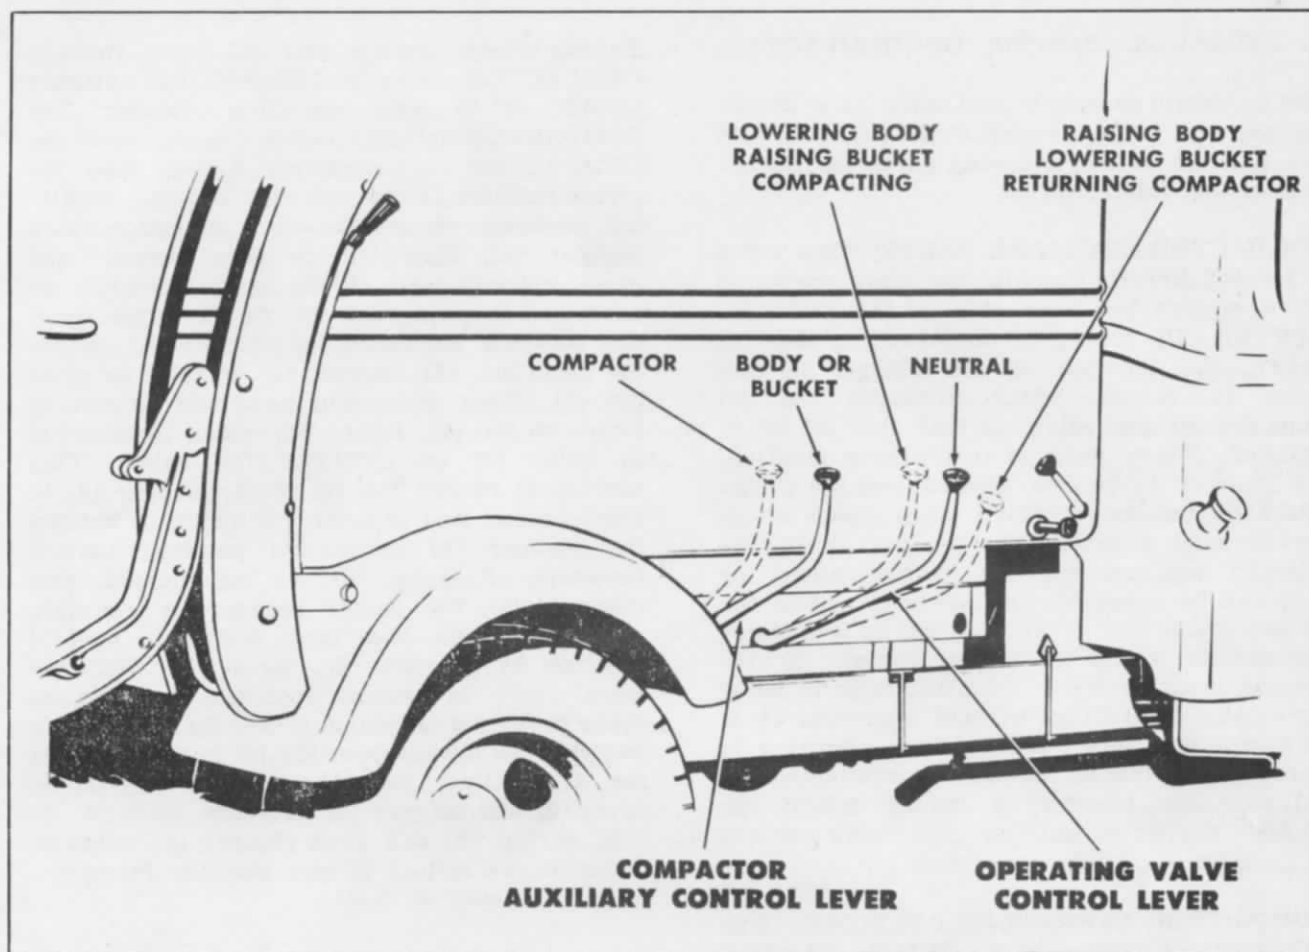

Figure S3 - Operating Control Lever Positions
1. OPERATING CONTROLS, Figure S3.
The COMPACTOR is operated with the regular Operating Valve Control Lever, which is the same lever used for controlling operation of the loading bucket. This is accomplished by the use of an auxiliary control valve which acts as a switch in the oil lines. Figure S3 shows all operating levers as arranged on the right-hand side of the REFUSE-GETTER. The COMPACTOR Auxiliary Control Lever con-
2. TO OPERATE COMPACTOR, Figure S3.
3. DUMPING BODY, Figure S3.